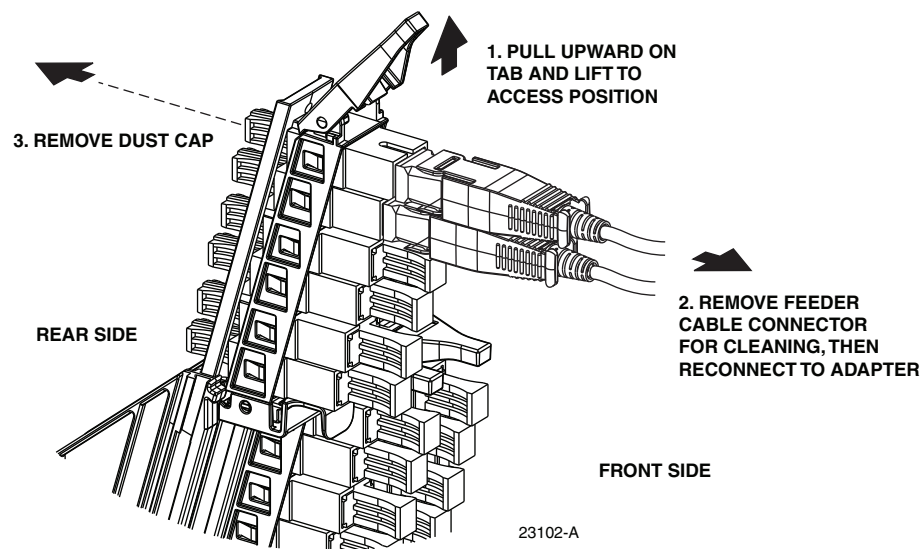

Figure 71. Adapter Pack Raised to Access Position
2. Pull upward on the small tab on top of the adapter pack and lift the adapter pack to the position shown in Figure 71